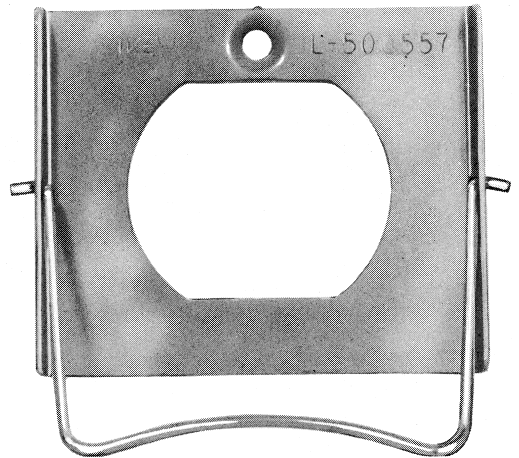

Fig. 13—Clamp for Mounting Early Version KS-20426L3 (MD) Transformer Not Equipped With Molded Mounting Tab
5.02 The transformer is self-protecting with an automatic thermo switch and is provided with primary terminals in the form of parallel blades which serve as the mounting device. If furnished, the clamp (Fig. 13) must be used to hold the transformer securely in the receptacle.
Danger: For safety, securely attach retaining clamp to ac outlet using outlet cover screw BEFORE attempting to install transformer. See Fig. 13. When removing transformer, always unplug the power unit completely from the outlet BEFORE attempting to